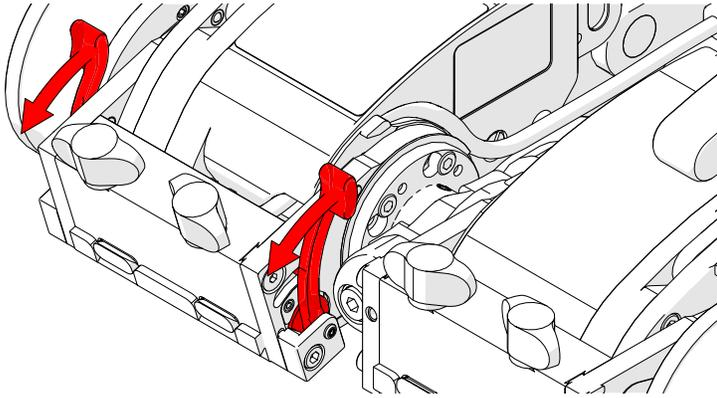

Fig. 21 - Release swivel mount adjustment levers
2. Release the swivel mount adjustment levers (Fig. 21).